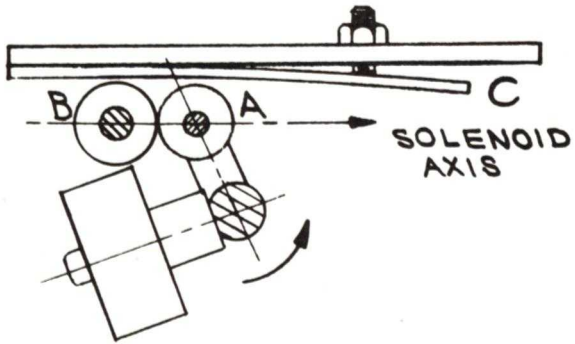
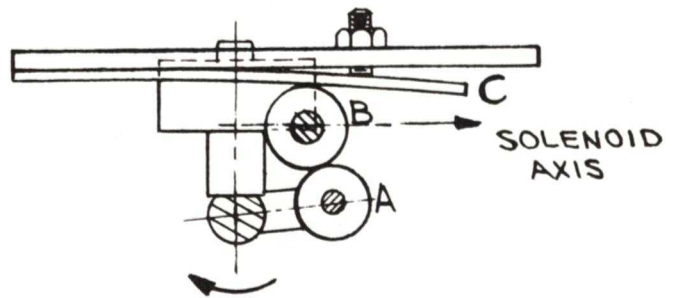
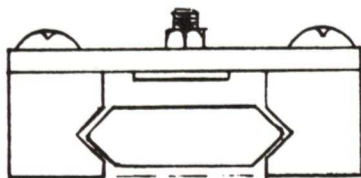

FIG. 5.1
FIG. 5.2
FIG. 5.3
6. SLIDE COVER SCREW ADJUSTMENT. Figure 5.1 shows the position of roller bearing A and nylon bearing B with the solenoid de-energized (machine off). In figure 5.2 the solenoid has been energized and the machine is running. It can be seen that nylon bearing B has rolled over bearing A, causing the cross shaft to rotate and bring the pressure roller in contact with the tape and capstan. Note that bearing B is held captive between roller A and track C. At this time the aluminum slide should be floating free between the V grooves of the nylon blocks as in figure 5.3.